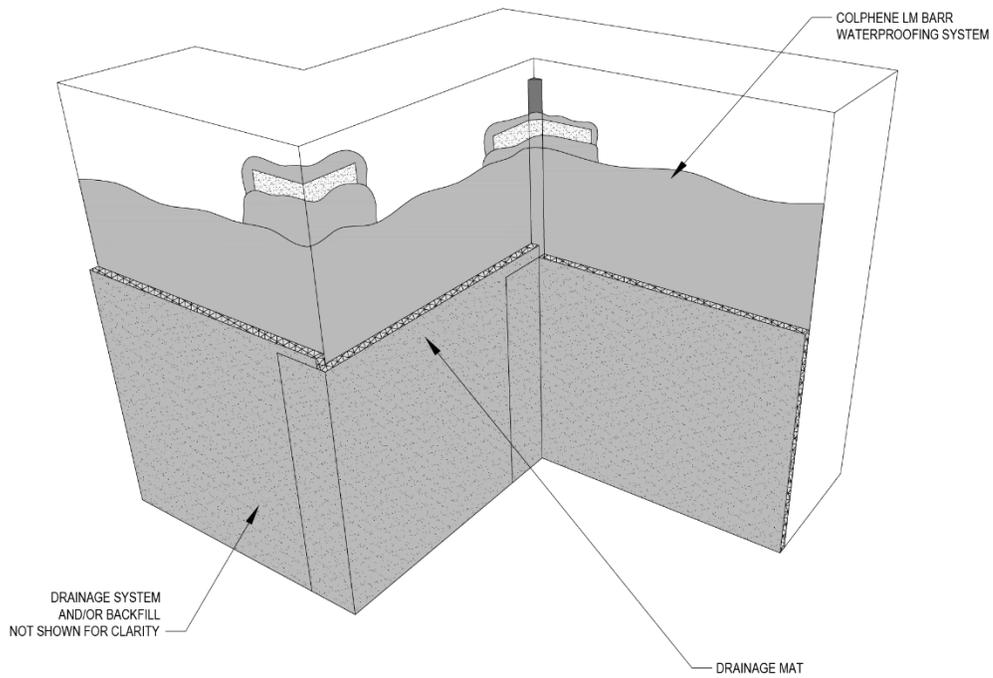
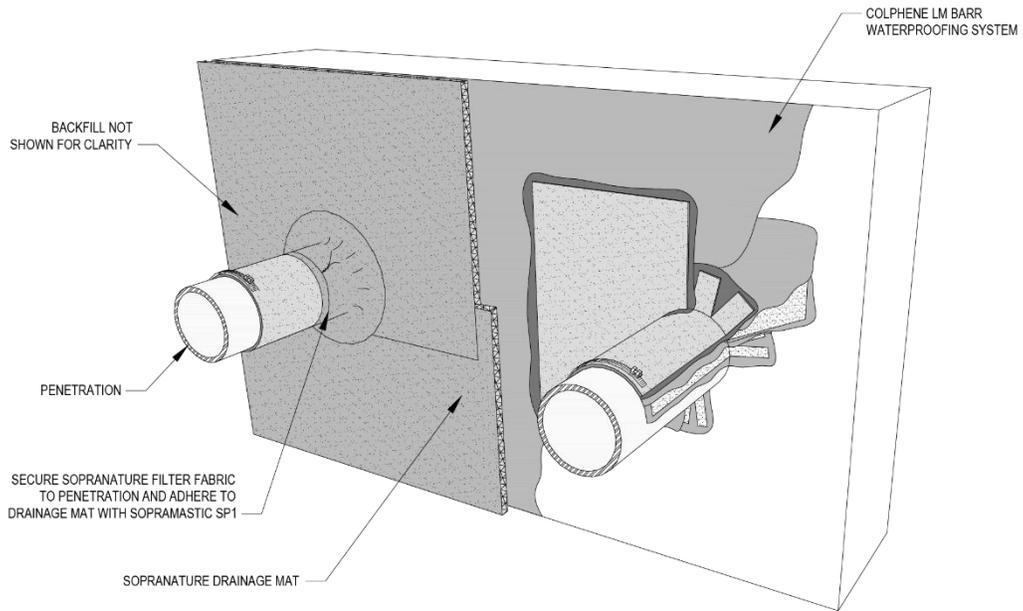
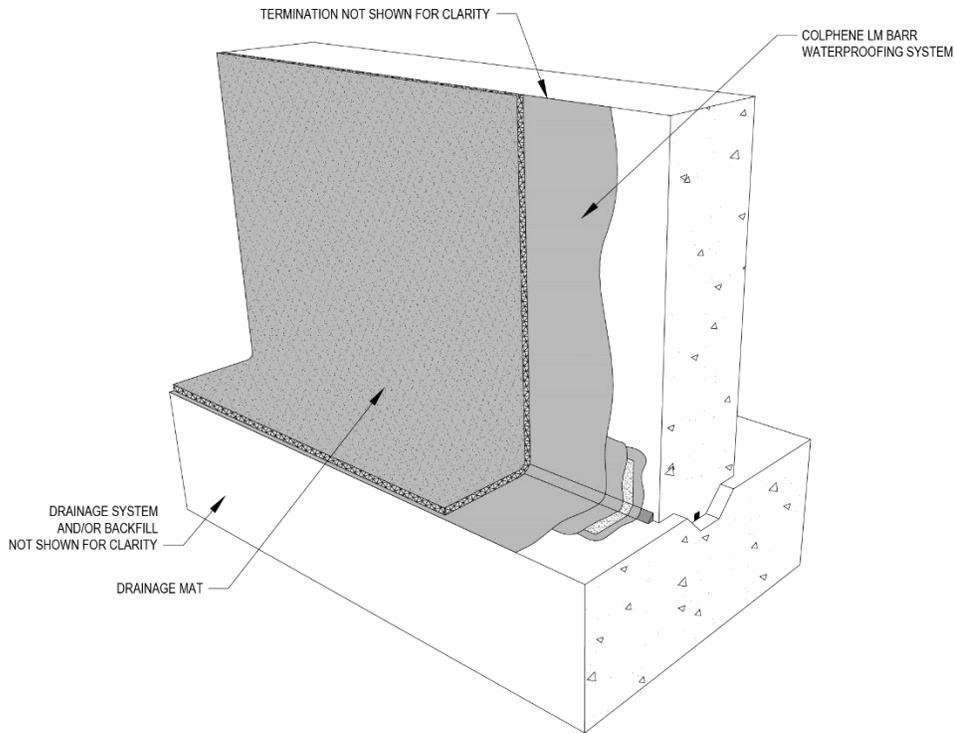

Figure 3.1d Drainage Mat Protection Course At Inside/Outside Corners
Figure 3.1i Drainage Mat Protection Course At Penetrations
Figure 3.1n Drainage Mat Protection Course At Transitions
- Before installing the drainage mat, unroll the mat and cut the material to conform to foundation wall conditions. Refer to Figure 3.1d, Figure 3.1i, and Figure 3.1n.